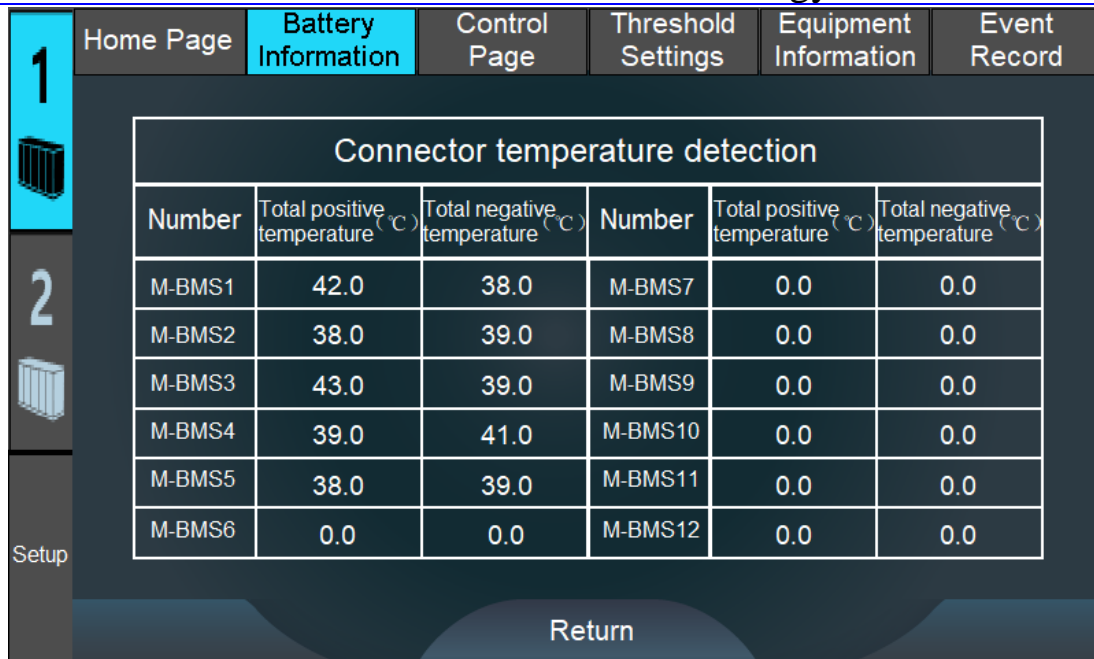

Figure 10-8 Connector temperature
4. Click on  shown in Figure 10-8, when the button switches to , select the command to issue, and the corresponding sub address, open balance, and contactor control commands can be issued.